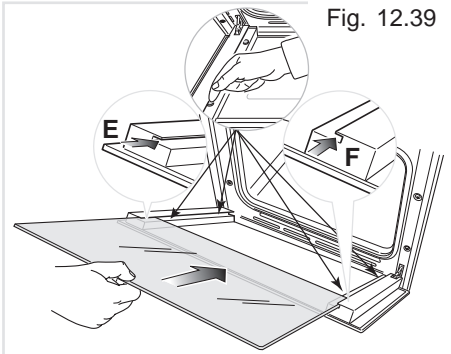
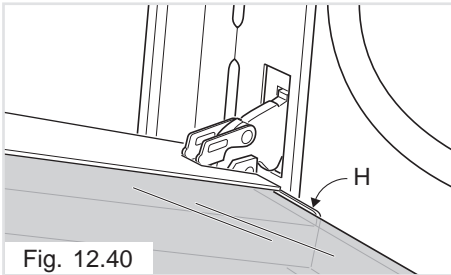

Fig. 12.39
Fig. 12.40
IMPORTANT: It is advisable, while refitting the glass, to keep pressed in position the four rubber pads "D", by a finger, to avoid breakage or slippage of the rubber pads themselves (fig. 12.39).
- Insert the pane in the left "E" and right "F" slide guides (fig. 12.39), and gently slide it to the retainers "H" (fig. 12.40).